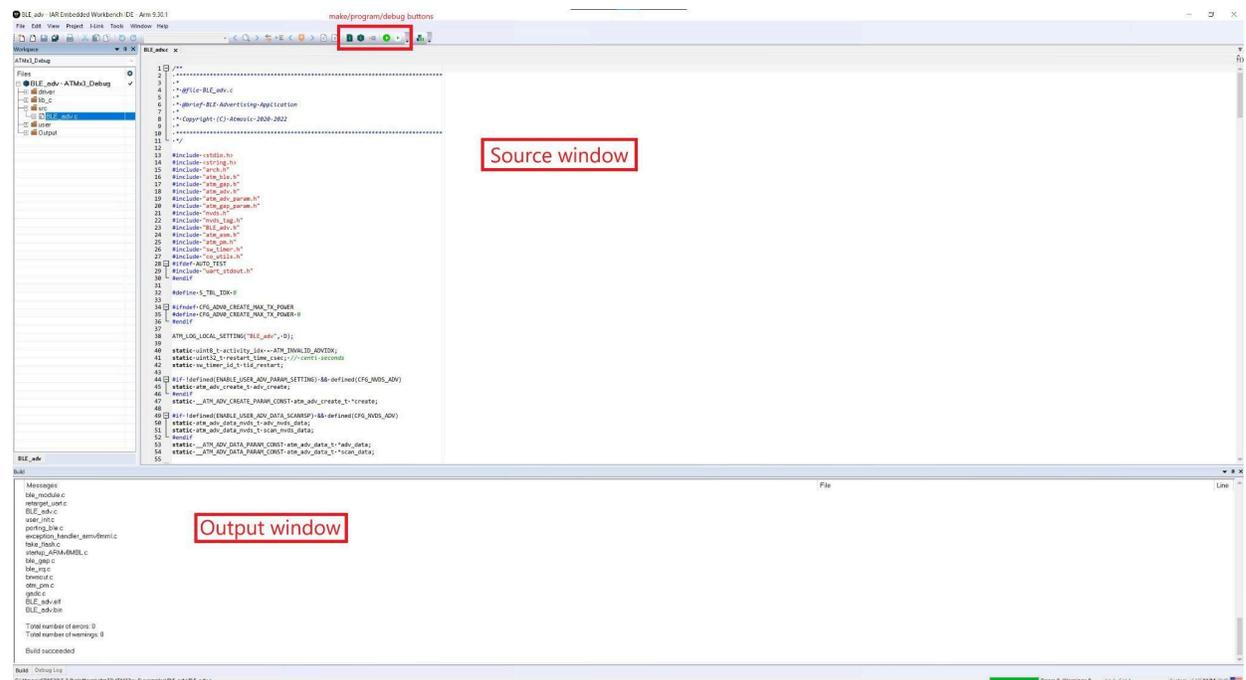

Figure 8 - IAR Workbench GUI
- 2) Edit/Compile/Program Code in IAR IDE, see Figure 8.